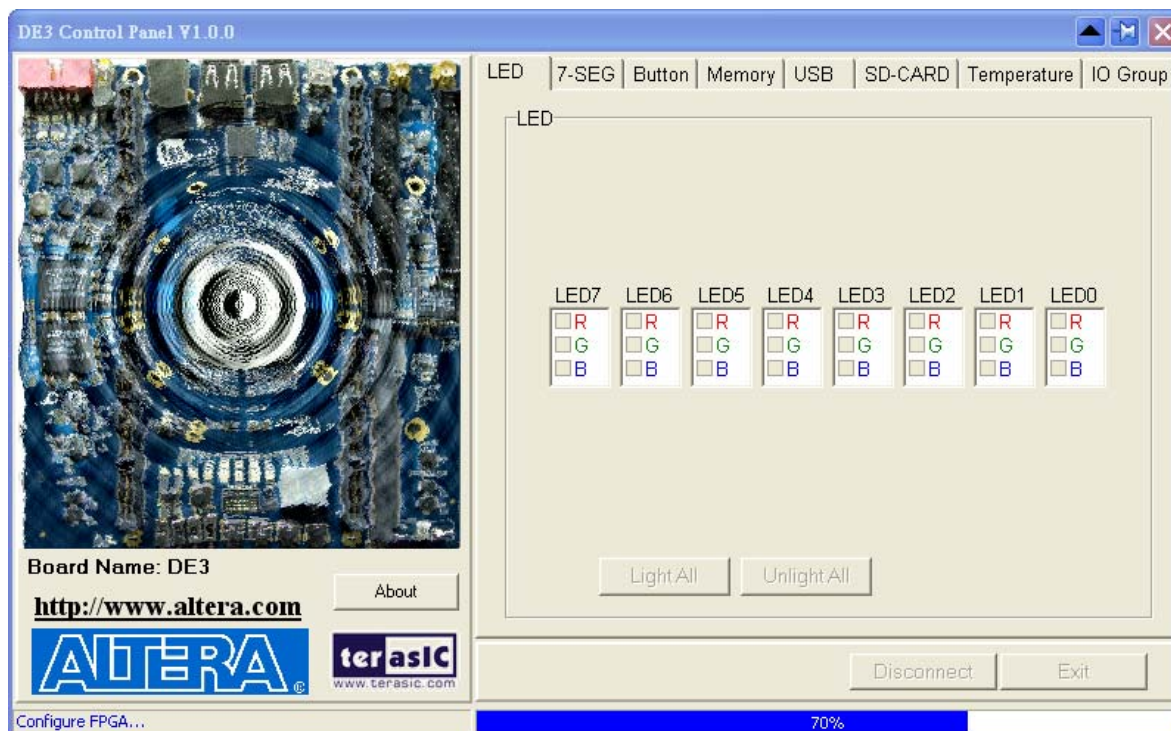

Figure 3.2. Download .sof and .elf files to the DE3 board
3. Start the executable *DE3\_control\_panel.exe* on the host computer. Figure 3.2 will appear and the Control Panel starts to auto-detect the FPGA and download the .sof and .elf files.